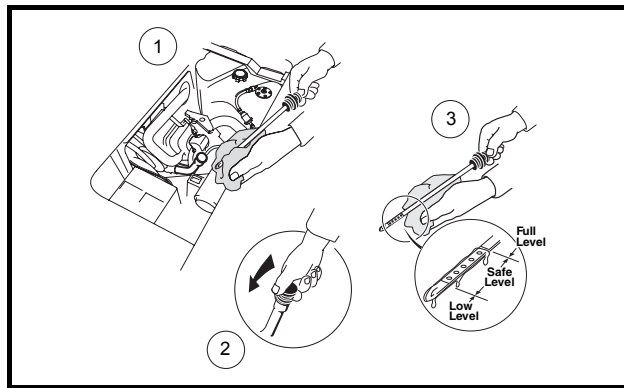

Figure 13-13 Check Engine Oil Level
9. Check engine oil level (**Figure 13-13, Page 13-10**).
- 9.1. With vehicle on level surface, remove dip stick and clean with cloth (**Figure 13-13, Page 13-10**).